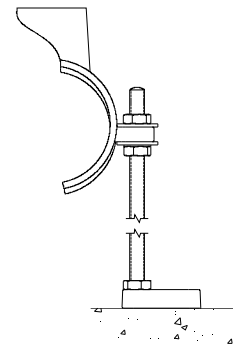

Fig. 6
6. Secure the anchor stabilizer to the fitting using the anchor foot assembly instructions and hardware provided. Ensure the anchor foot sits level on the floor and nuts are tightened. See Fig. 6